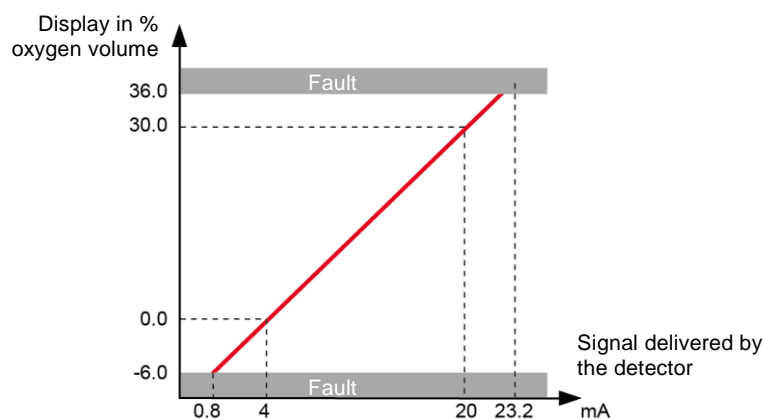

Figure 11: Configuration transfer curve 0 to 30 % oxygen
- European standard EN 50104 when the controller is used with OLCT 20, 40, 50, 60 and TBGW-EX gas detectors. Where the controller is used with other types of detectors delivering a current of 4/20 mA, they must conform to ATEX Directive 94/9/EC, Annex II, paragraph 1.5 and be compatible with the characteristics described therein (refer to the controller transfer curve in Figure 11).